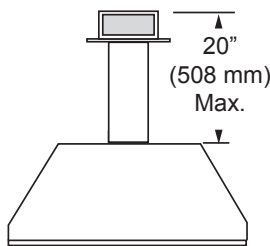

Figure 14 -
- The maximum horizontal distance between the rear of the appliance and the outside face of the outside termination is 20" (508 mm). *Figure 14*